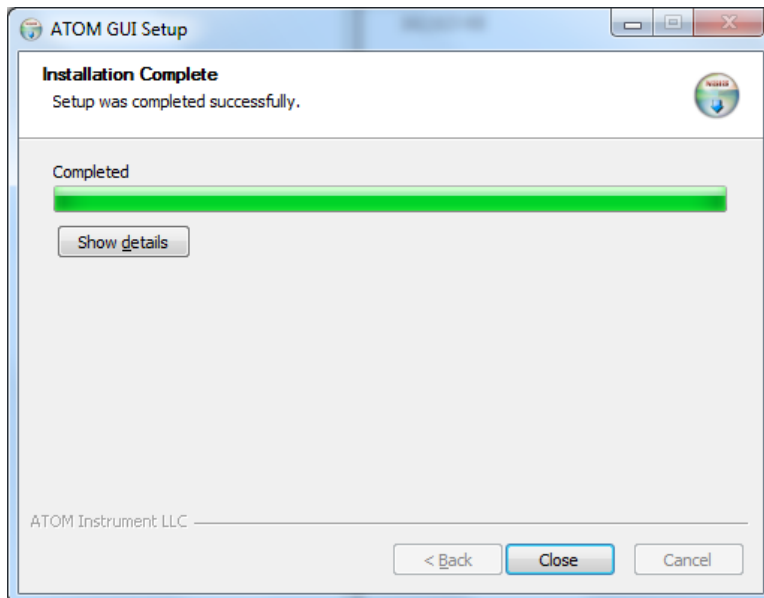

Figure 3.11
- Once the installation is complete (~ 1 - 2 mins), click **Close** (*Figure 3.11*)